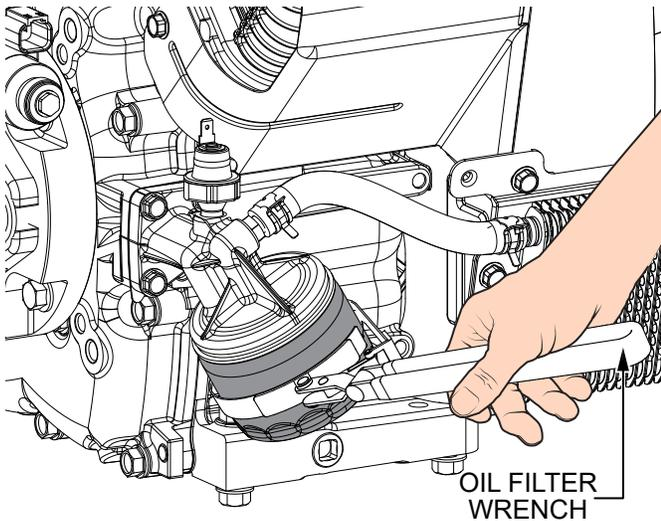

Figure 38. Oil Filter Removal
7. Use a **filter wrench** (Figure 38) to remove the oil filter.